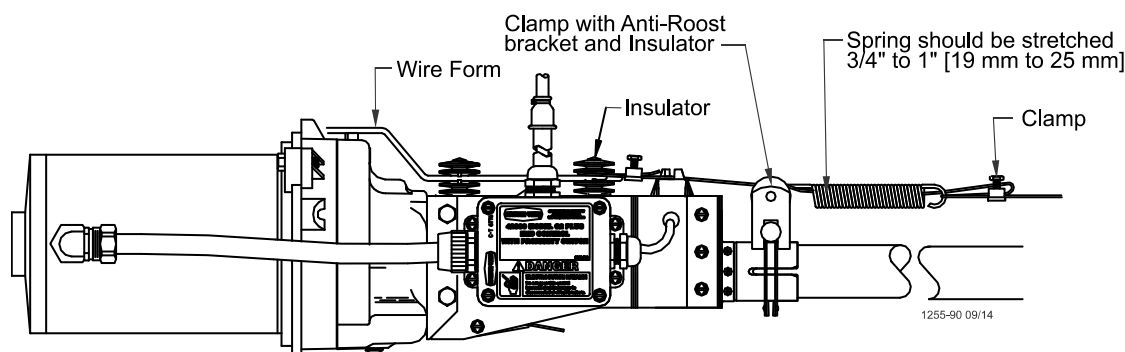

Figure 84. Anti-Roost Installation at the Control Unit
9. At the control unit, after clamping the cable to the spring, cut the cable about 8" to 10" [200 to 250 mm] longer than necessary. Feed the end of the cable through the center of the spring, around the first insulator on the control unit, and clamp the cable using the cable clamp supplied with the control unit. See **Figure 84**.
10. Install the wire form on the control unit insulators. Be sure the guard snaps into the retainers molded into the insulators. See **Figure 84**.